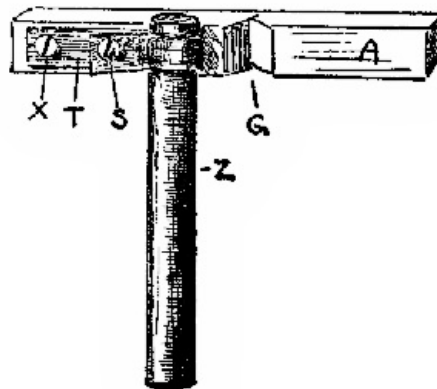

Fig. 2.
**2. Carbon-Zinc Cell.** Fig. 2. In case you want to make your cell out of carbon and zinc rods, and do not have any means of making holes for them in the wood, as in App. 3 and 4, you will find
this method useful. Cut grooves, *G*, into one side of the wood, *A*, which should be about  $4\frac{1}{2} \times 1 \times \frac{1}{2}$  in. The grooves should be quite deep, and so placed that the rods will be about  $\frac{1}{4}$  in. apart. A strip of tin, *T*,  $\frac{1}{2}$  in. wide, should be bent around each rod. The screw, *S*, put through the two thicknesses of tin will hold the rod in place. Another screw, *X*, acts as a binding-post. The zinc rod only is shown in Fig. 2. The carbon rod is arranged in the same way. Use the fluid of App. 15.